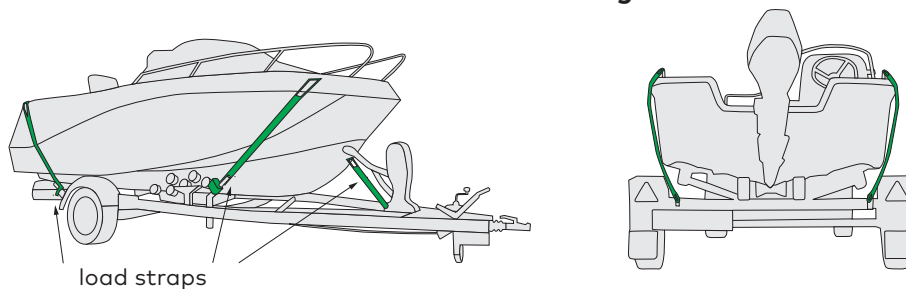

Figure 4
- Attach the rear of the boat to the strap eyelets of the trailer with a separate load strap on each side to prevent the trailer from moving sideways. Do the same on the sides toward the front of the boat. (see Figure 4).